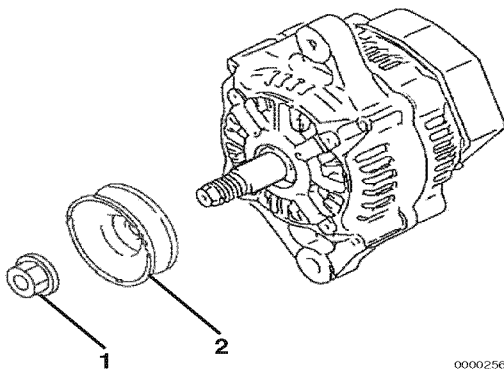

Figure 12-18
11. Reassemble the pulley (Figure 12-18, (2)) and nut (Figure 12-18, (1)) to the shaft of the rotor assembly. Tighten the nut.